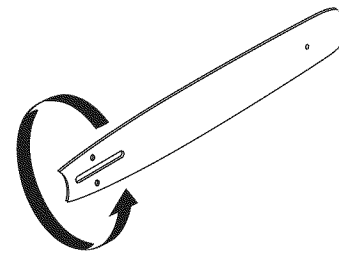

Fig. 48
- Rotate the guide bar frequently at regular intervals (for example, after every 5 hours of operation), to ensure even wear on the top and bottom of the guide bar (Fig. 48).